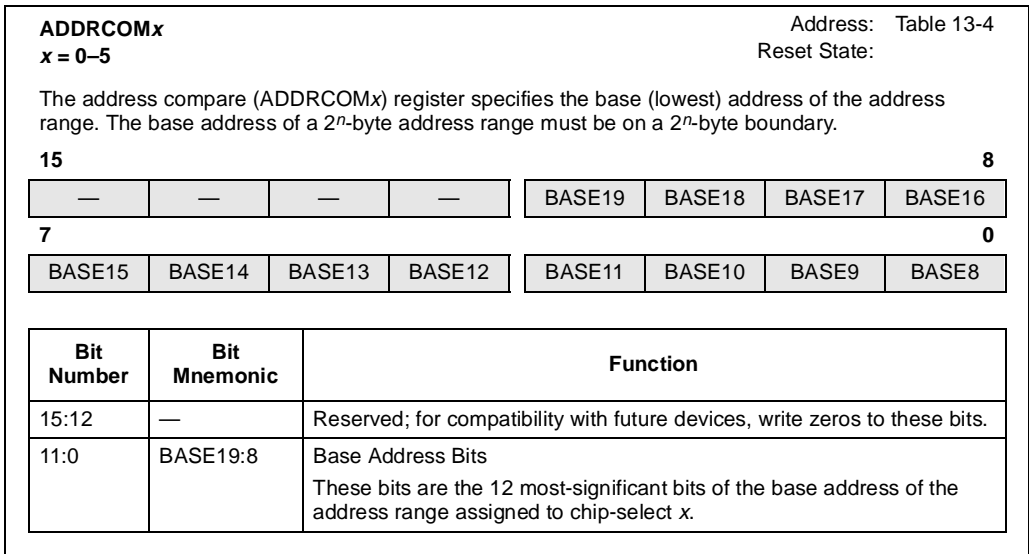

Figure 13-2. Address Compare (ADDR_{COMx}) Register
This section describes the ADDR_{COMx} and ADDR_{MSKx} registers and how to set them up for a desired address range. The ADDR_{COMx} register (Figure 13-2) and ADDR_{MSKx} register (Figure 13-3) control the assertion of each chip-select output CS_{x#}. The BASE_{19:8} bits in the ADDR_{COMx} register determine the base address of the address range. The MASK_{19:8} bits in the ADDR_{MSKx} register determine the size of the address range.
- Place the 12 most-significant bits of the base address into bits $BASE_{19:8}$ in the $ADDRCOM_x$ register (Figure 13-2).